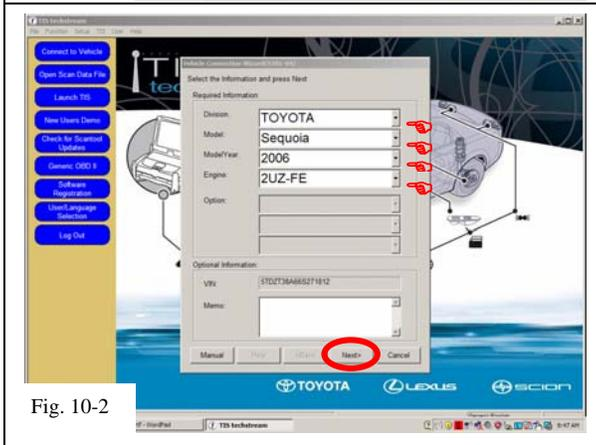

Fig. 10-2
- (e) Confirm that the information displayed on the Vehicle Connection Wizard is correct. If not, make the appropriate selections from the Drop Down Menus then click “**Next**”. (Fig. 10-2)